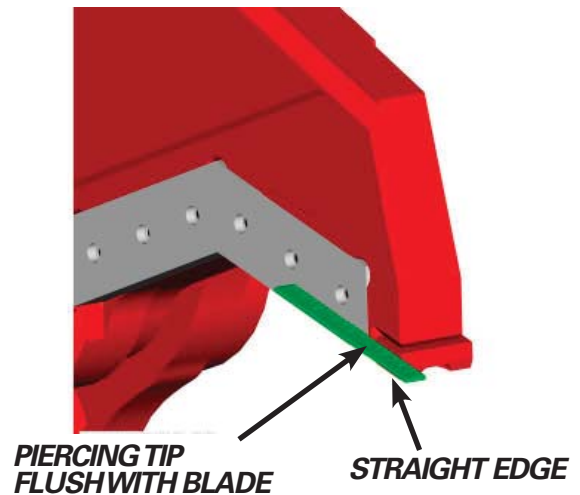

FIGURE 5-26
1. Use a straight edge to determine how much build-up is needed along the sides of the piercing tip. Place the straightedge along the cutting blades and extend it beyond the tip (see **Figure 5-26**). The tip should be flush with the blades.